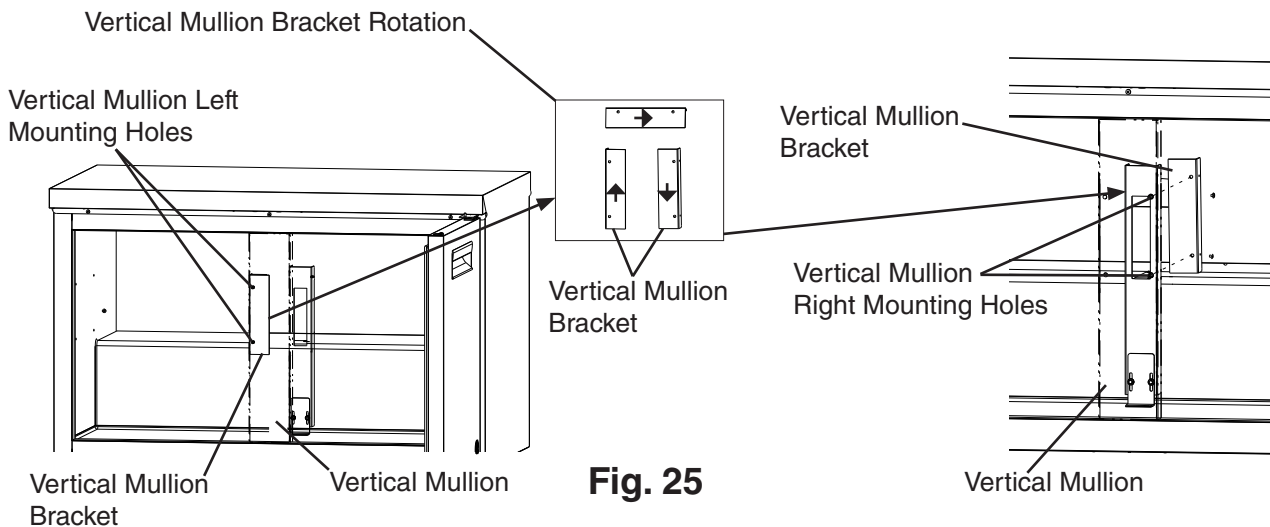

Fig. 25
- 7) Remove the vertical mullion bracket. Rotate 180 degrees and mount it in the vertical mullion right mounting holes. See Fig. 25.